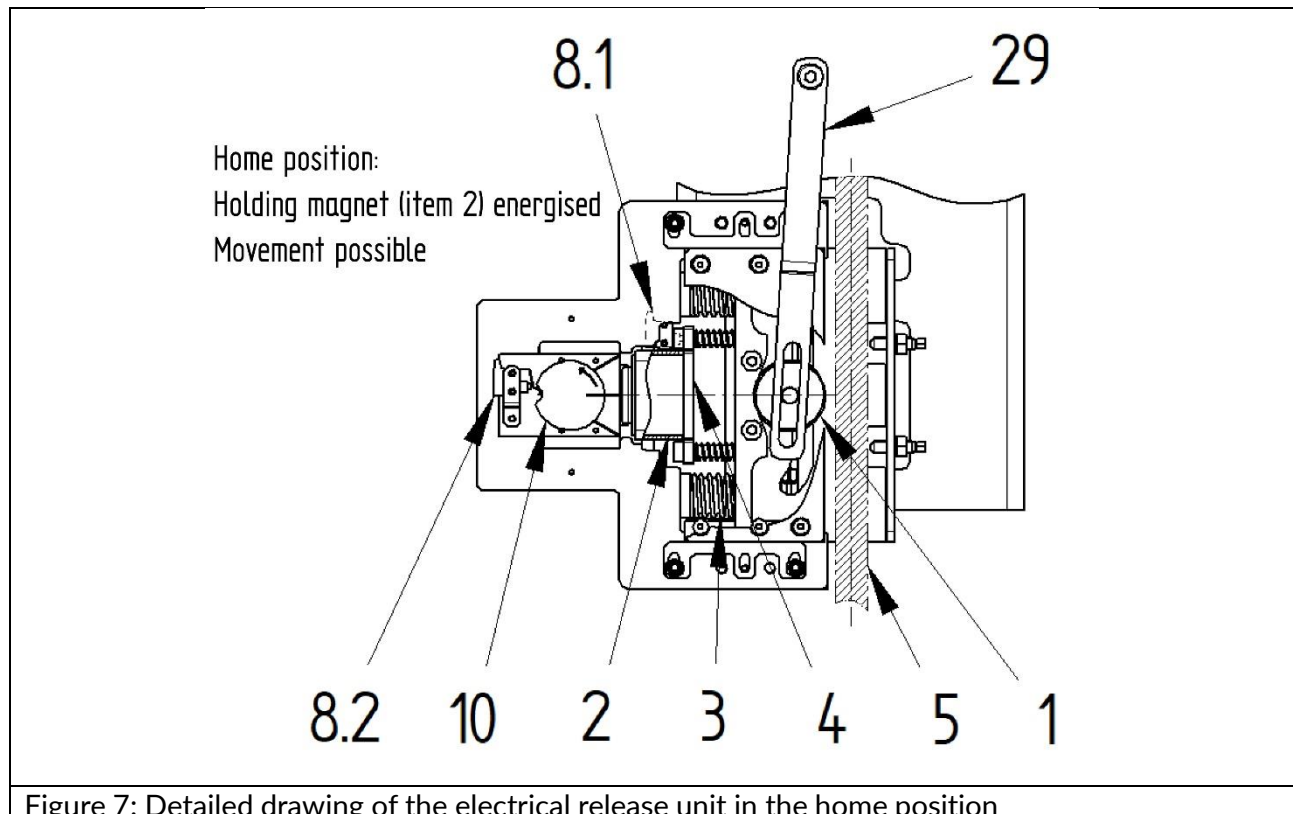

Figure 7: Detailed drawing of the electrical release unit in the home position
safety gear). In the **first step** of the reset from the brake end position, the holding magnet (figure 7, item 2) must be energised. In the **second step** when moving out of the catch, the trigger roll (figure 7, item 1) is moved by the coupling (figure 7, item 29) and the coupling plate (figure 7, item 4) therefore accesses the holding magnet (figure 7, item 2) and re-connects with this. A reset using the reset motor (item 7) is not required.